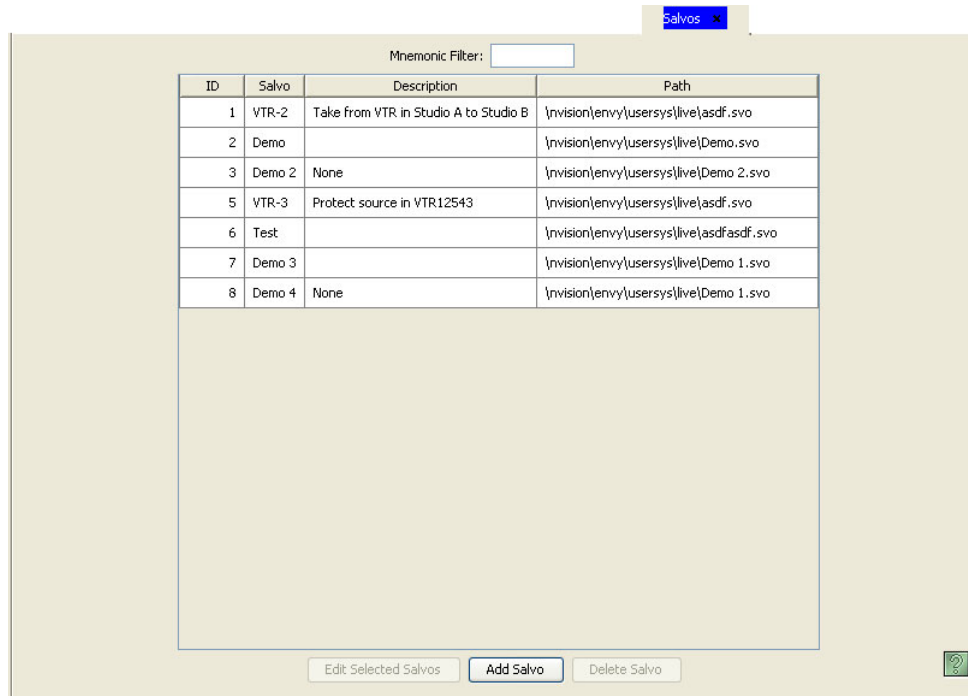

Figure 15-20. Salvos Page
- 1 From the Navigation area, select the 'Configuration' pane and then 'Salvos'. The 'Salvos' page displays, as shown in Figure 15-20.